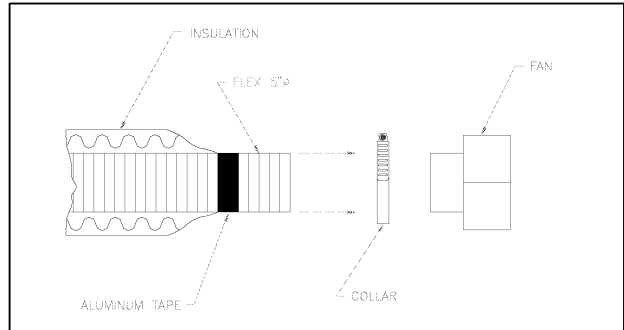

Figure 20
- D) Attach the flexible pipe to the fan, using the collars (figure 20).